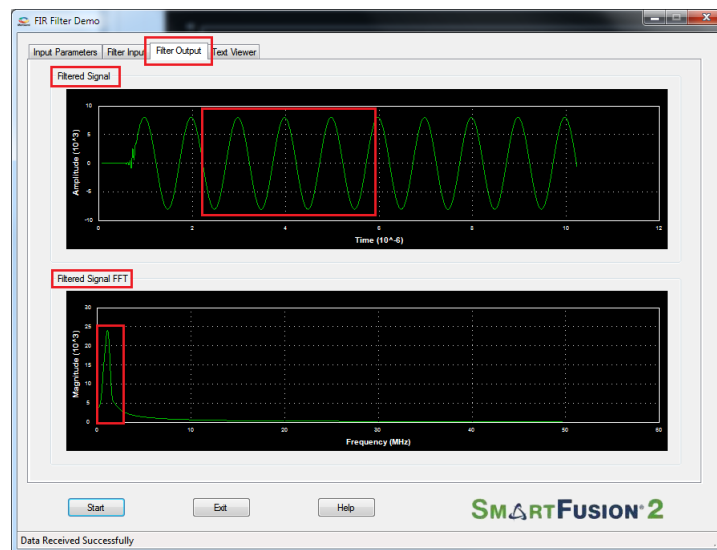

Figure 1-14 • Filtered Signal: Time and Frequency Plot
- After completing the filter operation by SmartFusion2, the GUI plots the filtered data and FFT data on filter output window as shown in Figure 1-14. Since Low pass filter option was selected, the High frequency component is suppressed while the Low frequency signal is preserved. This can be observed in the frequency spectrum of the output signal.